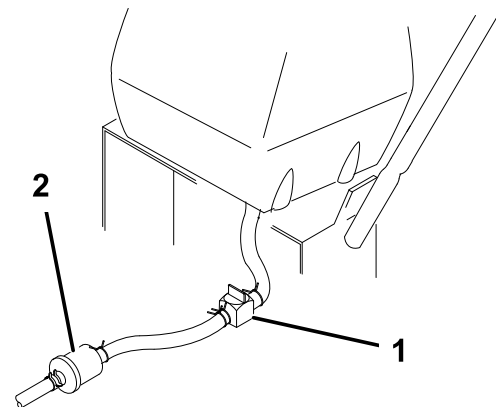

Figure 34
2. Close the fuel-shutoff valve at the fuel tank (Figure 34).
3. Squeeze the ends of the hose clamp together and slide it up the fuel line away from fuel filter (Figure 34).
4. Pull the fuel line off the fuel filter (Figure 34).
3. Close the fuel-shutoff valve at the fuel tank (Figure 34).
7. Open the fuel-shutoff valve at the fuel tank (Figure 34).